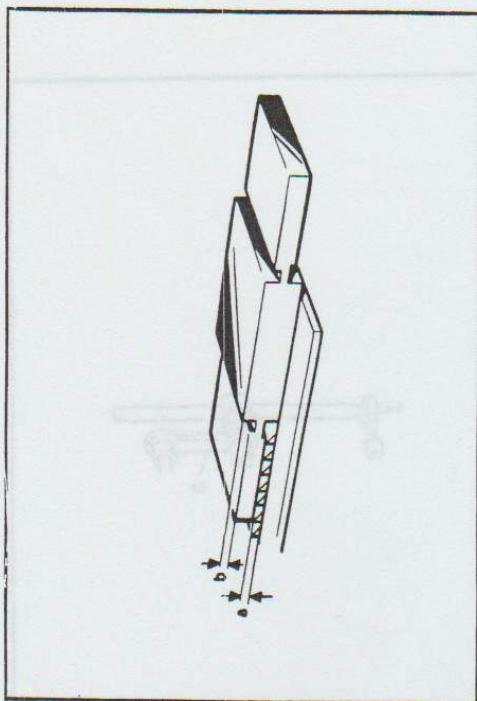

Fig. 19
- place gauge on teeth as in fig. 19, once with its higher step *a* (0,9 mm) and once with its lower step *b* (0,7 mm).